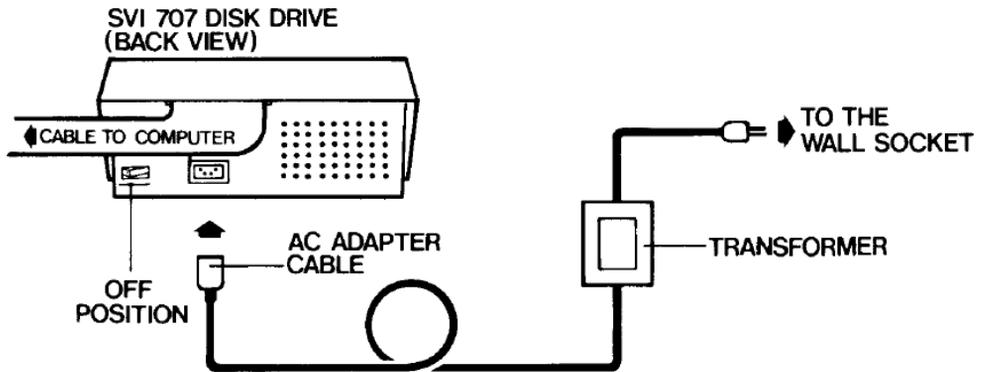

Figure 3 Installing the AC Adapter
| Figure 3 | |
- Step 4.** Plug one end of the AC adapter cable into the power socket at the back of the disk drive (see figure 3).